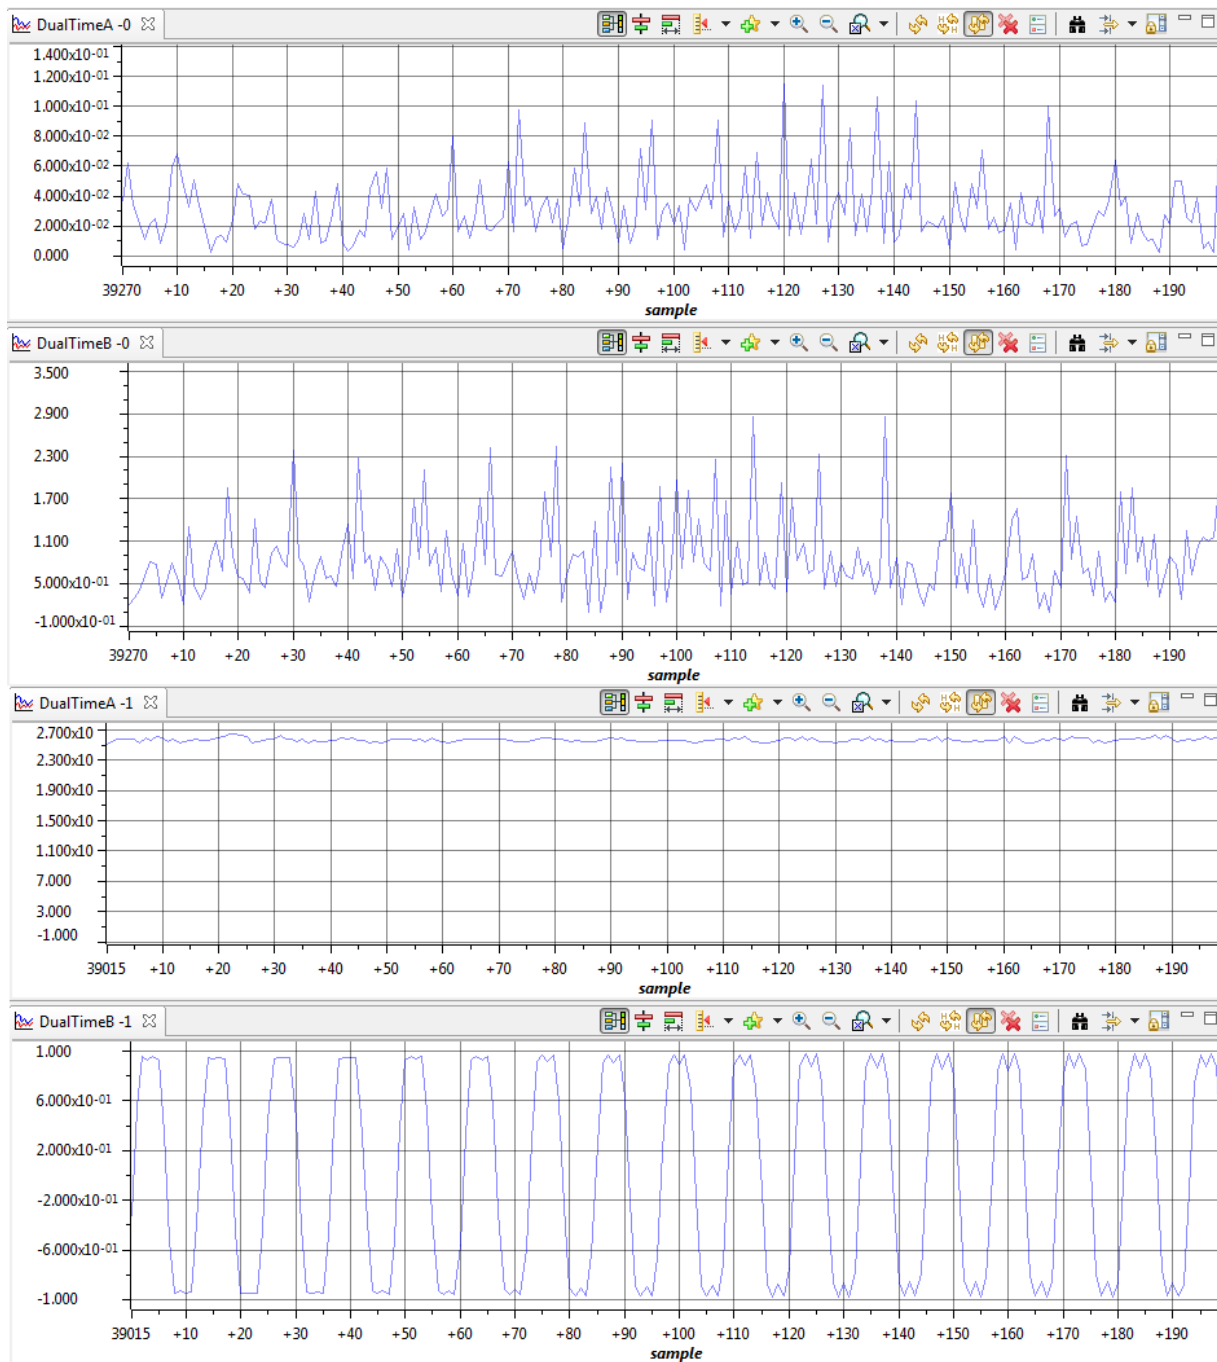

Fig 11 Graph Windows for Torque Control Mode (a) Motor torque output, (b) Total motor Current, (c) DC bus measurement (Volt) and (d) PWM1 output (pu)
- Setting “`gGUIObj.EnableFlg`” to 1 starts the main interrupt service routine for FOC control, ADC sampling of motor phase currents and DC bus voltage as well as generation of PWM output. Shown in Figure 11, is the expected Scope output (PWM signals) seen on pins 25, 26 and 28 of connector J5. If no change is observed, check to make sure continuous refresh is pressed.
- Set “gGUIObj.GraphInput” to 2 to enable graphing of current control mode variables. Verify the DC bus voltage (real world value, unit Volt) and PWM output (per unit) waveforms. Refer to Figure 11.
- Set "gGUIObj.GraphInput" to 1 to enable graphing of speed control mode variables. Verify the motor speed feedback (pu) and SMO based electrical angle (pu) waveforms (Refer to Figure 11).
Fig 11 Graph Windows for Speed Control Mode (a) Motor speed feedback (pu), (b) Phase A current (pu), (c) SMO based electrical angle and (d) Encoder based electrical Angle